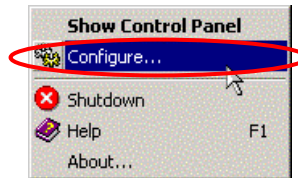

Figure 3-1. Select Configure from the shortcut menu.
2. Right-click the  *Matrikon* icon and select **Configure** from the shortcut menu that is displayed (Figure 3-1).